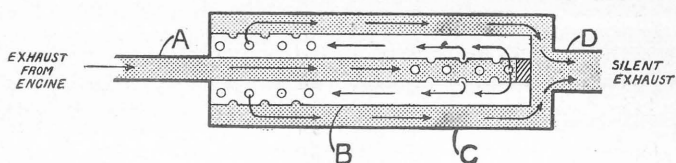
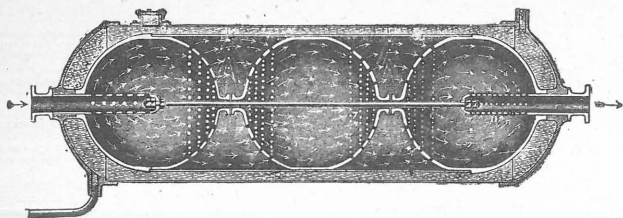

Fig. 1—A simple type of silencer.
Fig. 3.—A water-cooled silencer.
There are a great many different patterns of silencer, but in all the principle is very much the same, and may be easily understood from Fig. 1. A is a pipe connected to the exhaust port of the motor, closed at its right-hand end and perforated with holes as shown. Outside this pipe is another pipe or tube (B) with holes at its left-hand end, and outside this again is a third tube (C) with a single outlet (D) at its right-hand end. The exhaust gas from the engine passes along the tube (A), escaping through the small holes into the tube (B). It then travels back through B and through the holes at the end of it into the outer case (C), and finally escapes through the outlet (D). The gas is thus slowly allowed to expand and cool as it passes through the silencer, and, being well broken up by the time it reaches the outlet, produces little noise. Any number of tubes (in reason) may be used; the more there are of them the more quiet will be the exhaust; the only limit is the amount of the resistance to the passage of the exhaust that
The exhaust, when it leaves the engine, is very hot, not so hot as when the explosion first takes place, but still hot enough to make a cabin very unpleasant and even to char woodwork that is too near it. For this reason exhaust pipes are often lagged with asbestos, but a much better way is to water-jacket them just as cylinders are water-jacketed. The same water that cools the cylinders can be passed through the pipe jacket without the use of an extra pump, and the jacket should also be continued round the silencer. Fig. 3 shows one type of water-jacketed silencer and also gives an arrangement for breaking up the exhaust that takes the place of the tubes shown in Fig. 1.